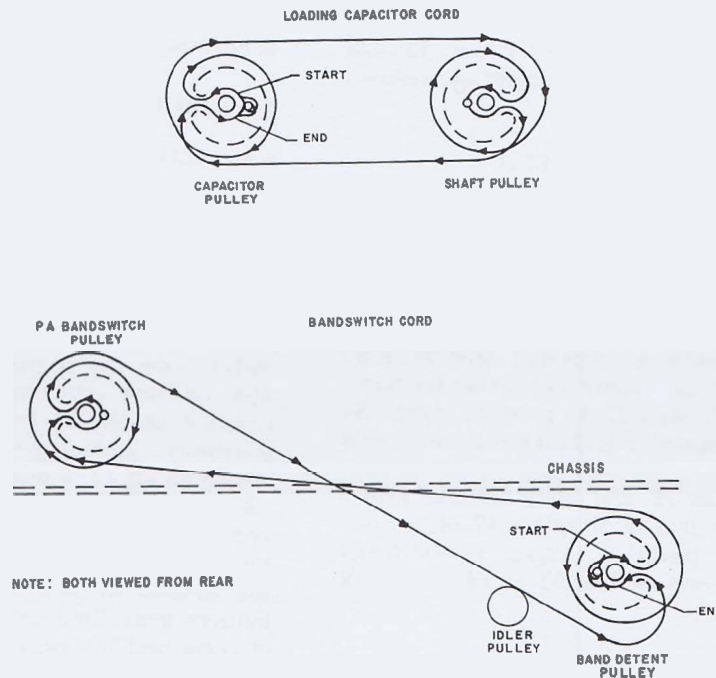

Figure 4-3. Dial Cord Stringing Diagram
4.6 DIAL CORD REPLACEMENT. (Refer to figure 4-3.)
d. String the cord according to the appropriate part of figure 4-3. Make sure the cord turns do not overlap on the pulleys. Pull the cord tight and tie to the tab. Mash the tab down to clamp the cord securely. Tighten the idler to bring the cord to tension.
d. String the cord according to the appropriate part of figure 4-3. Make sure the cord turns do not overlap on the pulleys. Pull the cord tight and tie to the tab. Mash the tab down to clamp the cord securely.